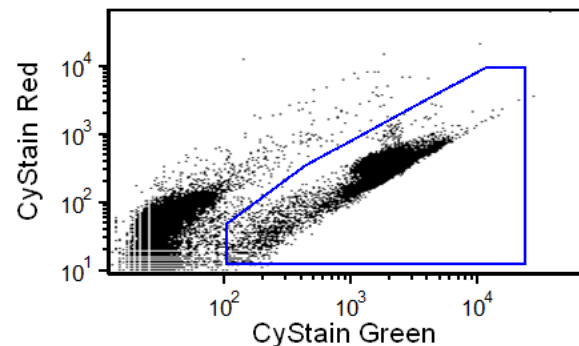
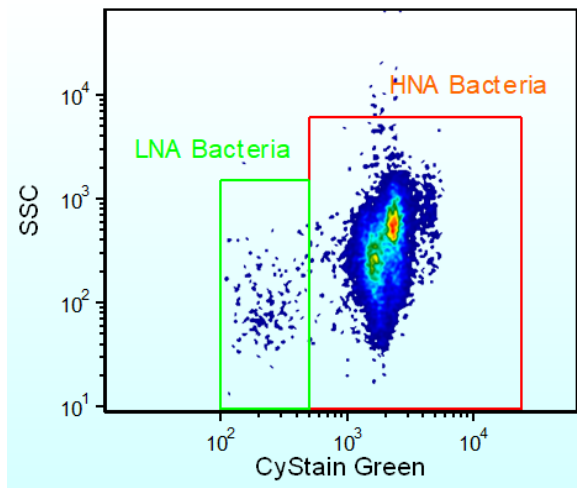

Fig. 1: CyStain™ Green vs. CyStain™ Red with gate PG1
Fig. 2: "PG2" LNA bacteria and "PG3" HNA bacteria
- Count total bacterial cells in “PG1” (Fig. 1), Count total LNA bacterial cells in “PG2” (Fig. 2), Count total HNA bacterial cells in “PG3” (Fig. 2)